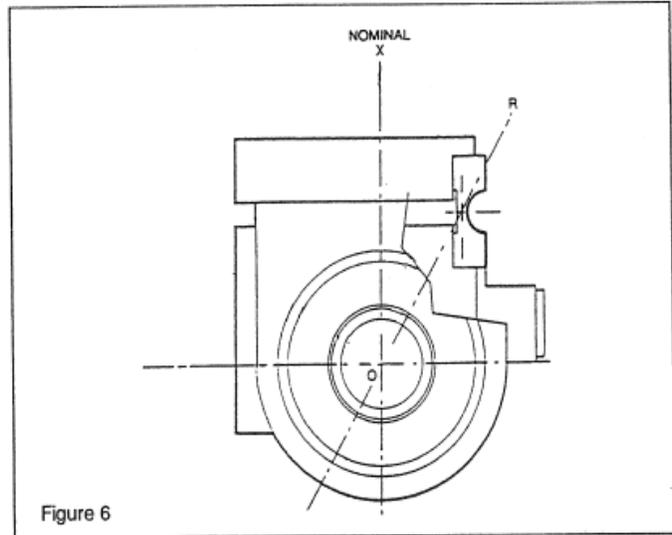

Figure 6
The total resultant load per cell (JT) is calculated by resolving web force vectors acting upon the Tensioncells, with respect to the Loading Line (OX). (JT is the resultant of both TENSION and TARE loads, PER CELL! (See Figure 6)